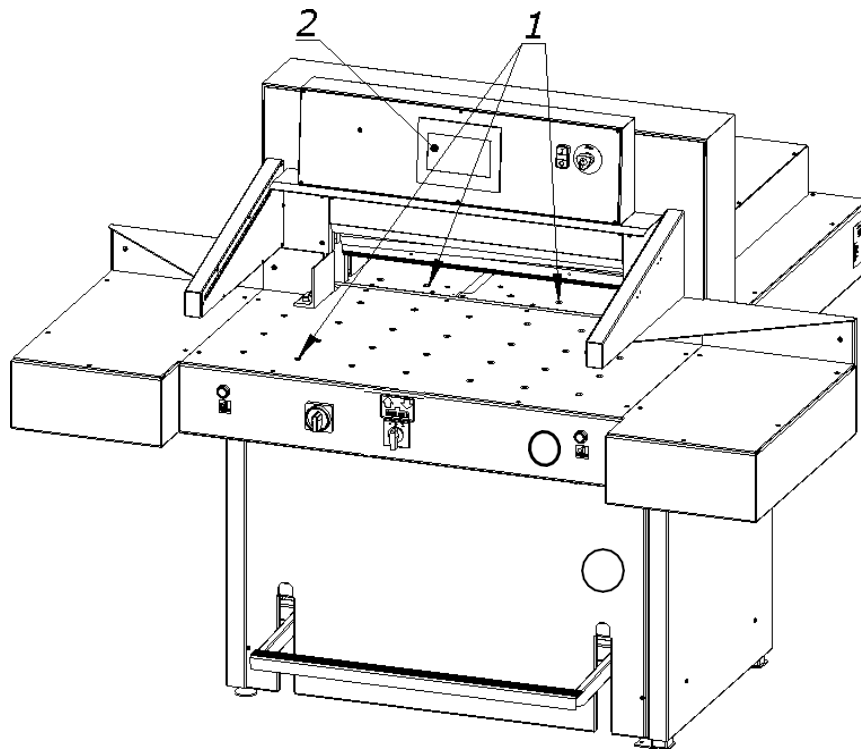

Figure 20.
The surface of the cutter table is equipped with air nozzles (1) (Figure 20).